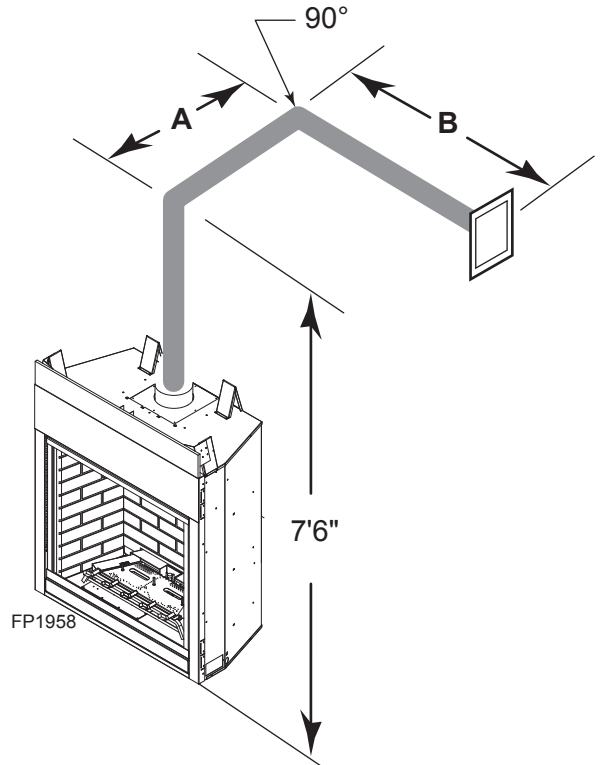
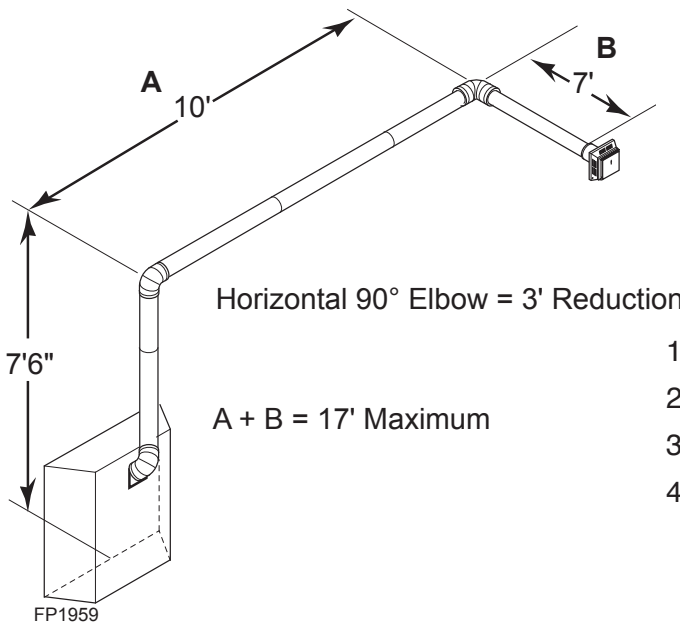

Figure 22 - Horizontal Run Reduction
Figure 23 - Maximum Vent Run with Elbows
- If a 90° elbow is used in the horizontal vent run (level height maintained) the horizontal vent length is reduced by 36". *Figure 23.* This does not apply if the 90° elbows are used to increase or redirect a vertical rise. *Figure 22*
In *Figures 22 and 23* dimension A plus B must not be greater than 17' (5.2 m).